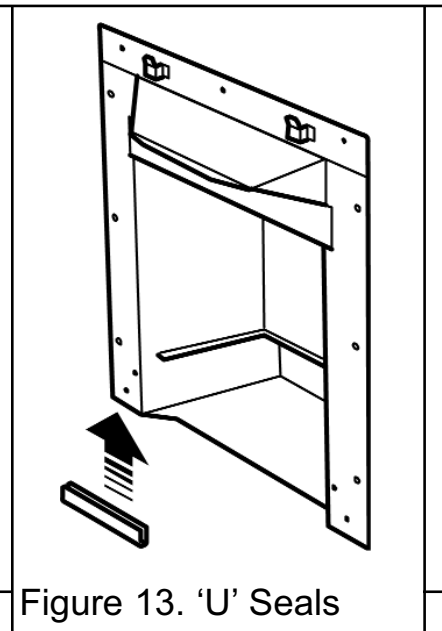

Figure 13. 'U' Seals
2. Fit the two “U” section seals to the bottom edges of the convection box side flanges (See figure 13).